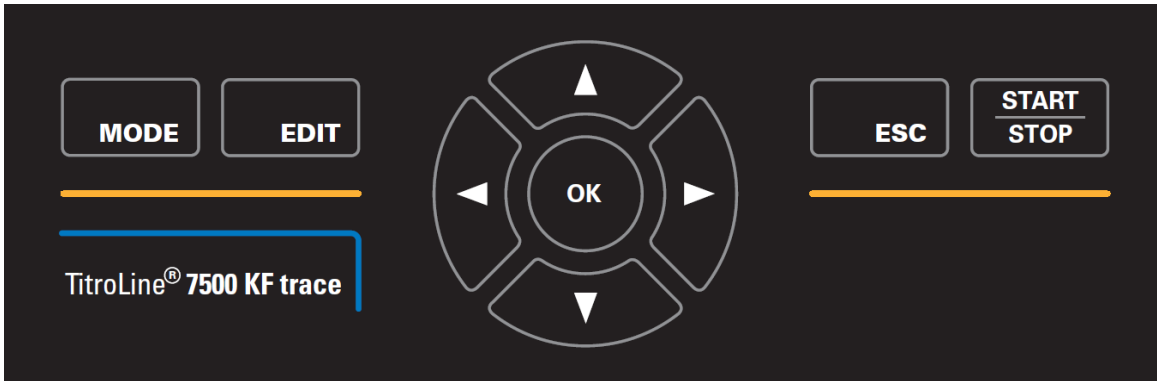

Fig. 16
**i** Apart from alphanumeric input (a-z, A-Z, 0-9) and a few other functions, almost all functions can be performed using the front keyboard (Fig. 16).